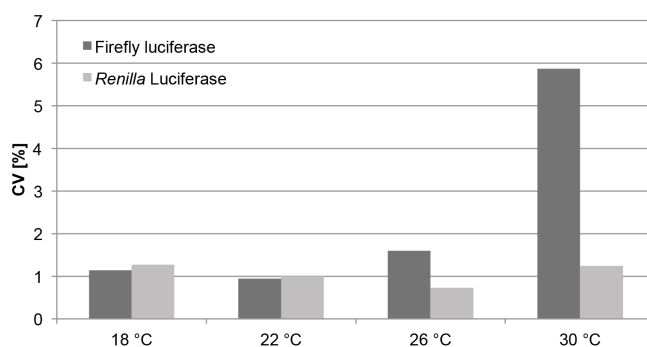

Figure 6: Temperature-dependent decrease in firefly luciferase activity is shown by the higher CV at 30 °C.
Assay temperature does not necessarily affect enzyme activity. Some enzymes might show altered conversion rates at different temperatures, while others show decreased stability. This was demonstrated in a luminescence assay where firefly and *Renilla* luciferases were detected sequentially during a well-wise measurement at different reader temperatures. The protocol for this assay required relatively long integration times, resulting in a measurement time of almost 30 sec per well, and therefore taking around 45 min for a complete 96-well plate. Figure 5 shows that the luminescent signal for the firefly luciferase decreased over time as a consequence of protein instability at elevated temperature, especially at 30 °C (A). In contrast, *Renilla* luciferase was not affected by altered temperatures inside the Spark reader (B). The effect of temperature on enzyme activity becomes obvious when the CV over multiple plate wells is compared (Figure 6).